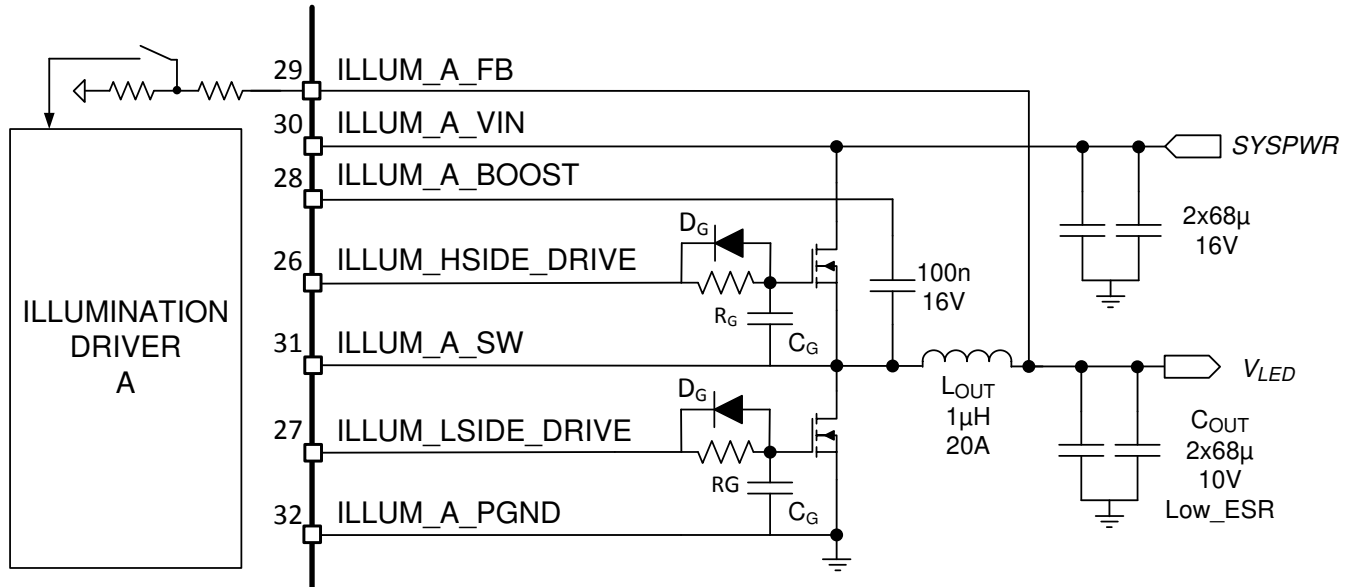
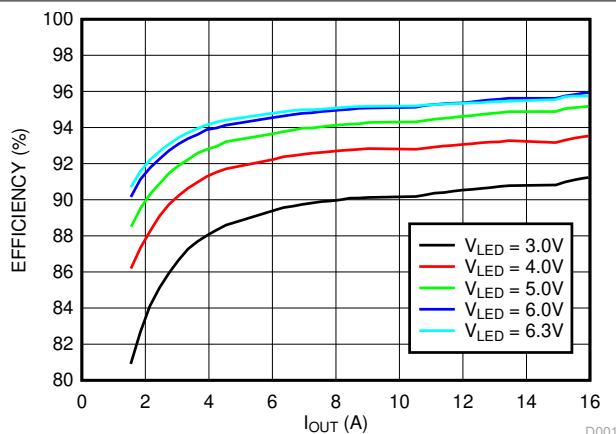

Figure 7-4. Typical Illumination Driver Configuration
Figure 7-10. Illumination Driver Plus Power FETs Efficiency ($V_{ILLUM_A_IN} = 12\text{ V}$)
The illumination driver of the DLPA3005 is a buck controller for driving two external low-ohmic N-channel FETs (Figure 7-4). The theory of operation of a buck converter is explained in the application note Understanding Buck Power Stages in Switchmode Power Supplies. For proper operation, selection of the external components is very important, especially the inductor L_{OUT} and the output capacitor C_{OUT} . For best efficiency and ripple performance, an inductor and capacitor should be chosen with low equivalent series resistance (ESR).
Below (Figure 7-10) an overview is given of the efficiency of the illumination driver plus power FETs for an input voltage of 12 V. Used external components (Figure 7-4): High-side FET (L) CDS17506Q5A, Low-side FET (M) CDS17501Q5A, $L_{OUT} = 2 \times 2.2 \mu\text{H}$ parallel, $C_{OUT} = 88 \mu\text{F}$. The efficiency is shown for several output voltage levels (V_{LED}) versus output current.